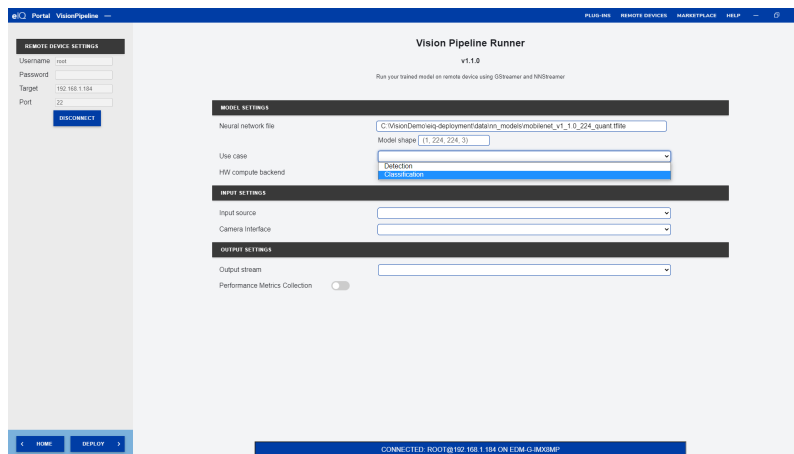

Figure 6.20.: Vision Pipeline Extension: Use-case Selection
2. The use case defined by the model (classification or detection). The extension cannot determine the use case defined by the model only by reading its name or its internal parameters. For the tool to build the correct pipeline, it is important to indicate the use case defined by the model (Figure 6.20.).